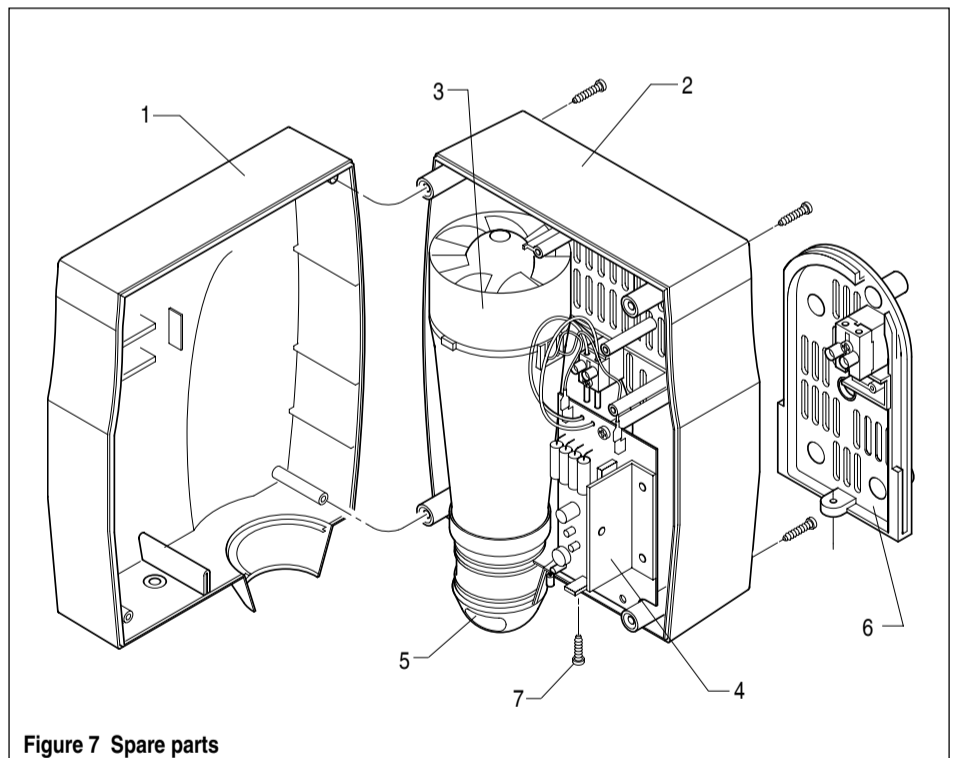

Figure 7 Spare parts
- 7.1 A full range of spare parts is available for this product. See figure 7. Please consult your local Santon stockist for any requirements you may have or contact Santon directly.